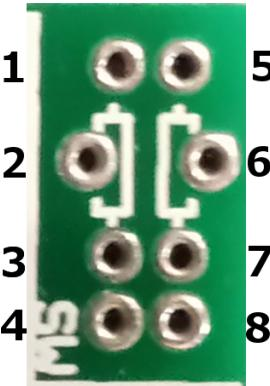

Figure 7.1: Terminator PCB
- a) (2) 2" (5 cm) lengths of orange wire.
- b) (2) 2" (5 cm) lengths of blue wire.
- c) (1) 2" (5 cm) length of green wire.
3. Refer to the diagram in Figure 7.1. Solder an orange wire to hole #2.